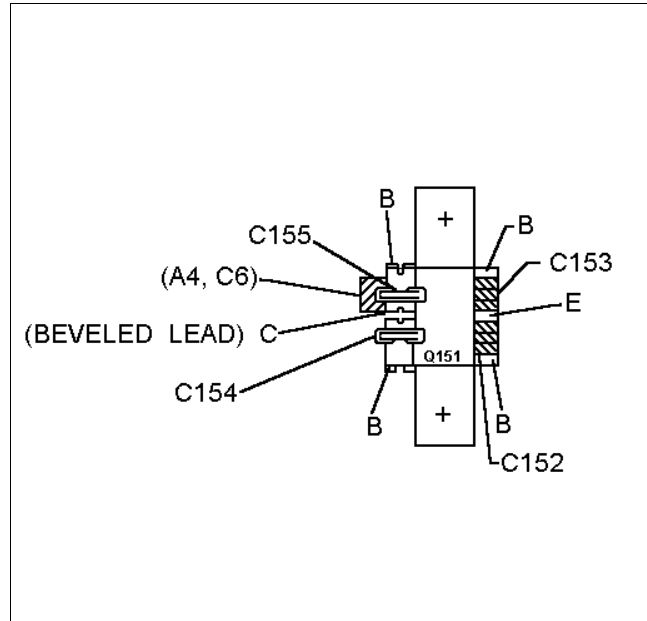

Figure 1 - PA Transistor Lead Identification
4. Remove all excess solder from the board near Q151. Clean the board to allow the new transistor to be positioned properly. Refer to Figure 1 and trim the new transistor leads (if required) to the lead lengths of the removed transistor.